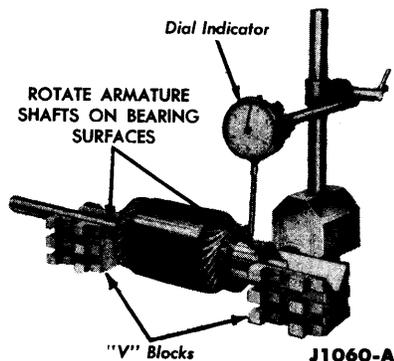

FIG. 13—Commutator Runout Check
4. Check the commutator for run-out (Fig. 13). Inspect the armature shaft and the 2 bearings for scoring and excessive wear.
Check the commutator runout as shown in Fig. 13. If the surface of the commutator is rough or more than 0.002 inch out-of-round, turn it down.